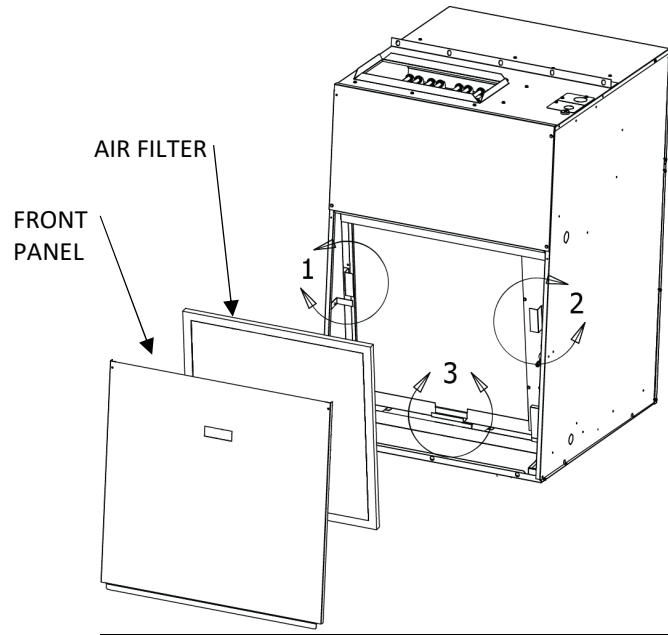

FIGURE 16 –Air Filter Location
5. Inspect the filter provided with the unit. If dirty or damaged replace. (**Figure 16- Air Filter Location**) Place the filter into the filter bracket.